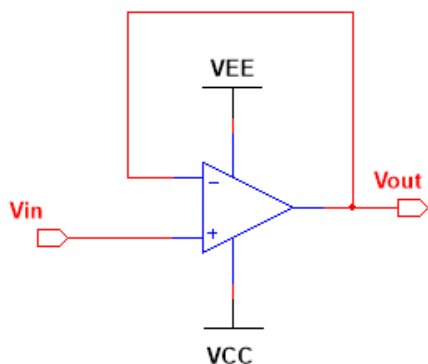
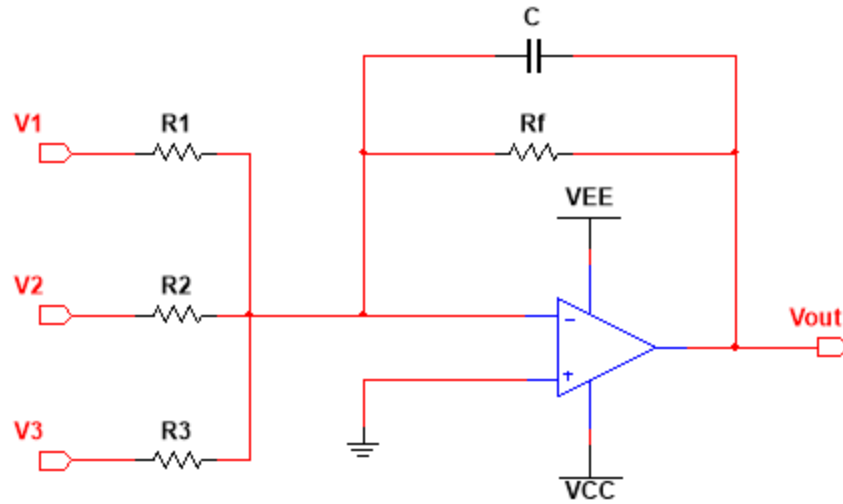

Figure 3.1 Voltage follower
Figure 3.2 Summing amplifier circuit
1. Calculate the value for the gain, which is v_{out}/v_{in} , in Figure 3.1. Assume the op-amp is ideal. Read Reference 5.3 for more information on ideal op-amps.
5. Assume small-signal inputs to avoid slew-rate limitations and also assume that the op-amp is not ideal (e.g. finite open-loop gain A_v). You may still assume very large input resistance and very small output resistance for the opamp. Read Reference 5.3 for more information on non-ideal op-amps. Since the op-amp gain A_v is not ideal and varies as a function of frequency (see the op-amp specifications), the circuit in Figure 3.1 might not perform as a voltage follower. Using an equivalent circuit model for the op-amp in which the open-loop op-amp gain A is finite, analyze the circuit in Figure 3.1 to derive an equation for the circuit gain v_{out}/v_{in} as a function of A_v . At what value of A_v does v_{out}/v_{in} equal 0.5?
6. Using the op-amp specifications (plot of op-amp gain A as function of frequency) and the result in item 5 above, at what frequency do you expect v_{out}/v_{in} to equal 0.5? Find the range of gain v_{out}/v_{in} for the audio signal and comment on whether the gain significantly changes in terms of frequency.
1. Derive the equation for v_{OUT} in the frequency domain for the circuit in Figure 3.2, assuming the op-amp is ideal. Then find the magnitude of the output signal in terms of frequency. Assume that the input voltages are V_1 , V_2 , and V_3 , in frequency domain.
- For the circuit in Figure 3.1, with power supplies $V_{CC} = 12 \text{ V}$, $V_{EE} = -12 \text{ V}$, use MultiSim transient analysis to simulate this circuit in the time domain using a square wave input with an amplitude going from -10 V to $+10 \text{ V}$, a frequency of 3 kHz, and a duty cycle of 50%. From the MultiSim output plot of the input and output waveforms, measure the time interval for the output to reach the steady state after an input transition. Then calculate the slew rate. Compare the waveforms in the MultiSim program to the corresponding waveforms given in the datasheet.
- Set the input signal to a sine wave with an amplitude of 100 mV (–100 mV to +100 mV peak-to-peak) and a frequency of 10 Hz. Check the output signal to make sure the voltage follower functions as expected. Use the AC analysis function in the MultiSim program and find the frequency at which the voltage gain decreases to half of its maximum value. Compare this result with 3.2 item 5.
- For the circuit in Figure 3.2, with power supplies $V_{CC} = 12\text{ V}$, $V_{EE} = -12\text{ V}$, use MultiSim AC analysis (log scales for both the frequencies and magnitude) to plot the output voltage from 10 Hz to 1 MHz. Use the same parameters as in 3.3 items 4 and 5 and compare the result with the theoretical result.
- Build the circuit in Figure 3.1 with power supplies $V_{CC} = 12\text{ V}$, $V_{EE} = -12\text{ V}$. Set the function generator to provide a square wave as follows: